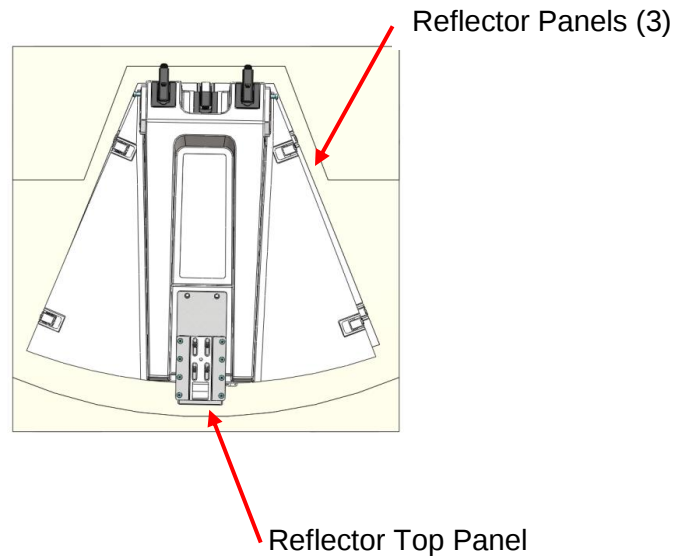

Figure 50. Case No. 8 Pack-Up
32. Place panels 1, 2, 7 & 8 in appropriate bag located in Case 8 as shown in Figure 50 on page 51.